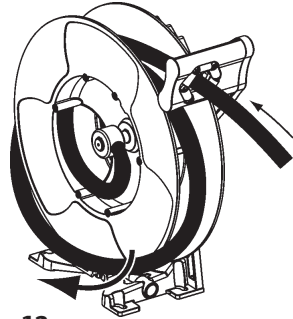

Fig. 12
2. Unwind one turn and pull the hose (fig. 12).